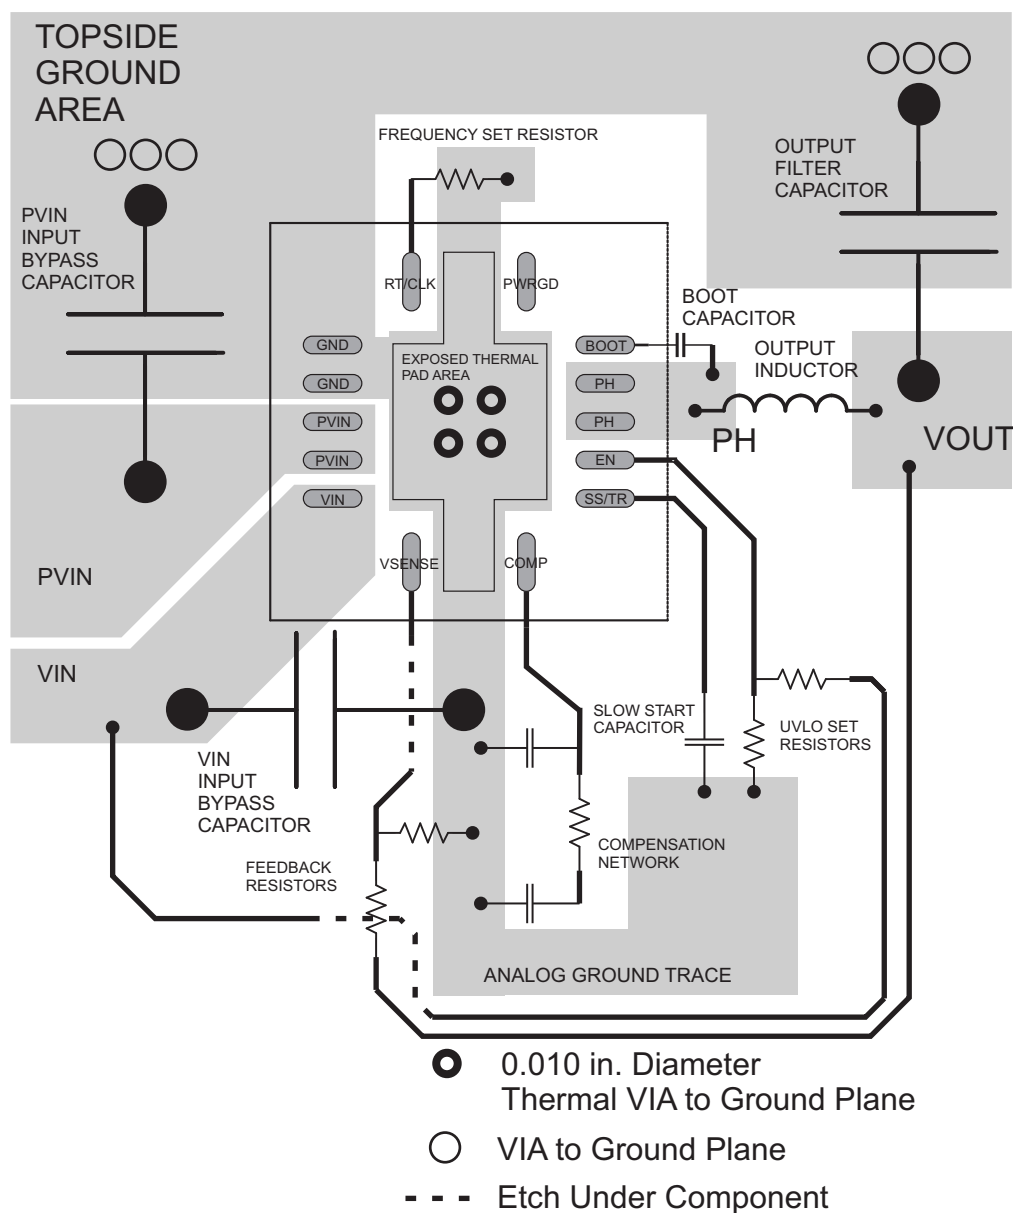

Figure 55. PCB Layout
The TPS54620 is designed to operate from an input voltage supply range between 4.5V and 17V. This supply voltage must be well regulated. Power supplies must be well bypassed for proper electrical performance. This includes a minimum of one 4.7μF (after de-rating) ceramic capacitor, type X5R or better from PVIN to GND, and from VIN to GND. Additional local ceramic bypass capacitance may be required in systems with small input ripple specifications, in addition to bulk capacitance if the TPS54620 device is located more than a few inches away from its input power supply. In systems with an auxiliary power rail available, the power stage input, PVIN, and the analog power input, VIN, may operate from separate input supplies. See Figure 55 (layout recommendation) for recommended bypass capacitor placement.
- Layout is a critical portion of good power supply design. See Figure 55 for a PCB layout example.